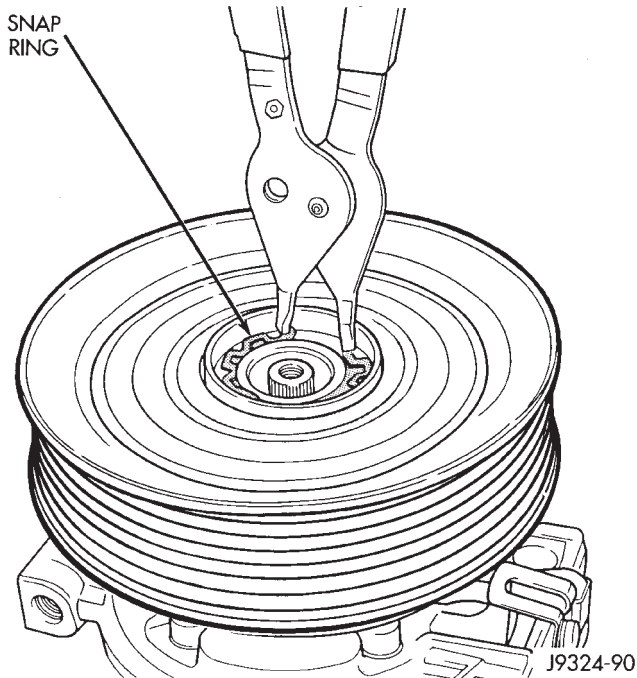
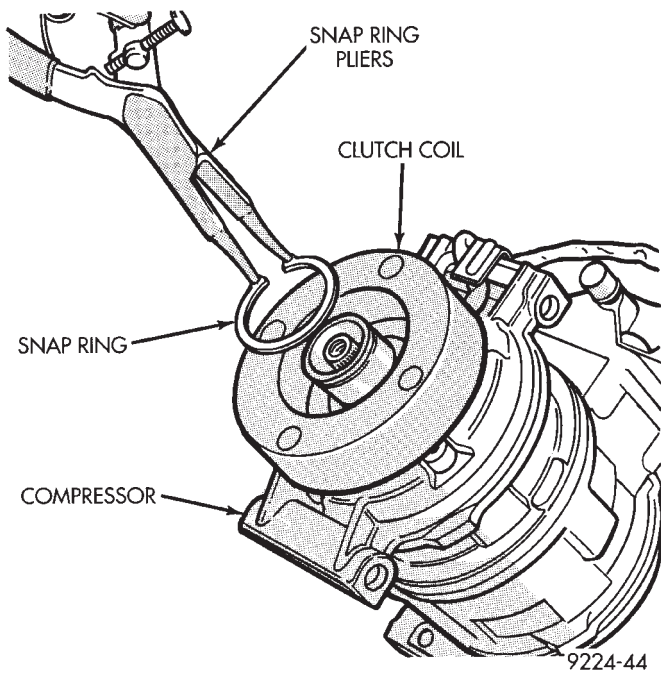

Fig. 33 Pulley Snap Ring Remove/Install
Fig. 34 Clutch Coil Snap Ring Remove/Install
(5) Remove the external snap ring that secures the compressor clutch pulley to the nose of the compressor front housing with snap ring pliers (Special Tool C-4574) and slide the pulley assembly off of the compressor (Fig. 33).
(6) Remove the screw and retainer from the clutch coil lead wire harness on the compressor front housing.
(7) Remove the external snap ring that secures the compressor clutch coil to the nose of the compressor front housing with snap ring pliers and slide the coil assembly off of the compressor (Fig. 34).